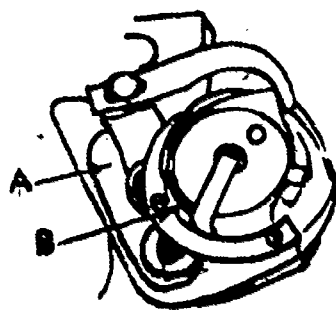

Figure 5. Hook Race and Bearing Lubrication:
3. Add oil to oil well (figure 5-A) as needed to lubricate the upper hook bearing.
4. Oil the felt pad (figure 5-B) on the side of the bobbin case when needed. When the pad is light green it needs oil. When the pad is wet it is nearly black. This pad lubricates the hook race.